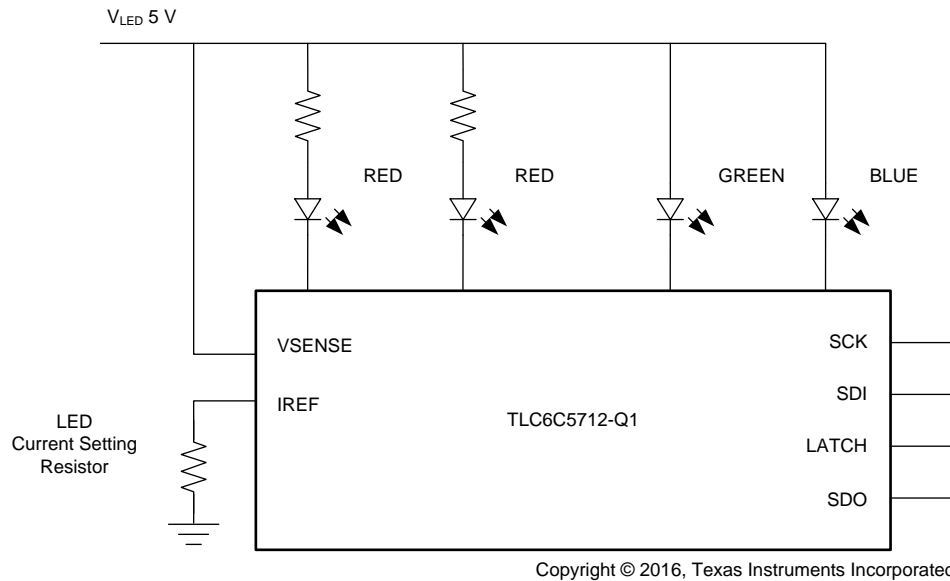

Figure 6. Application With Resistor In Series With LED
- Figure 6 shows an application with only one voltage rail (V_{LED}). A resistor in series with each red LED is added. In this way, the voltage excess drops across the resistor instead of dropping across the current generators. This solution implies a significant reduction of the power dissipated by the chip. However the total power dissipation does not change and a large portion of the power is still wasted on the series resistor.